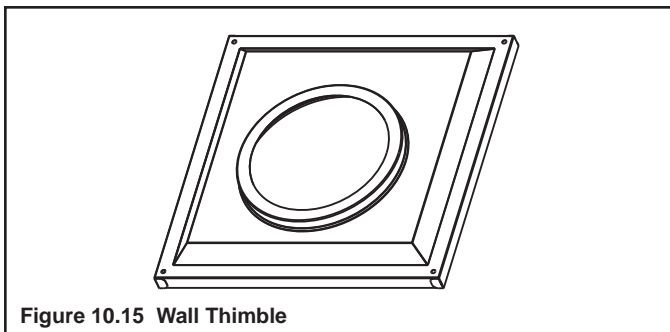

Figure 10.15 Wall Thimble
- Once the pipe section and the termination cap have been connected, slide the wall thimble up to the interior wall surface and attach with screws provided. See Figure 10.15.